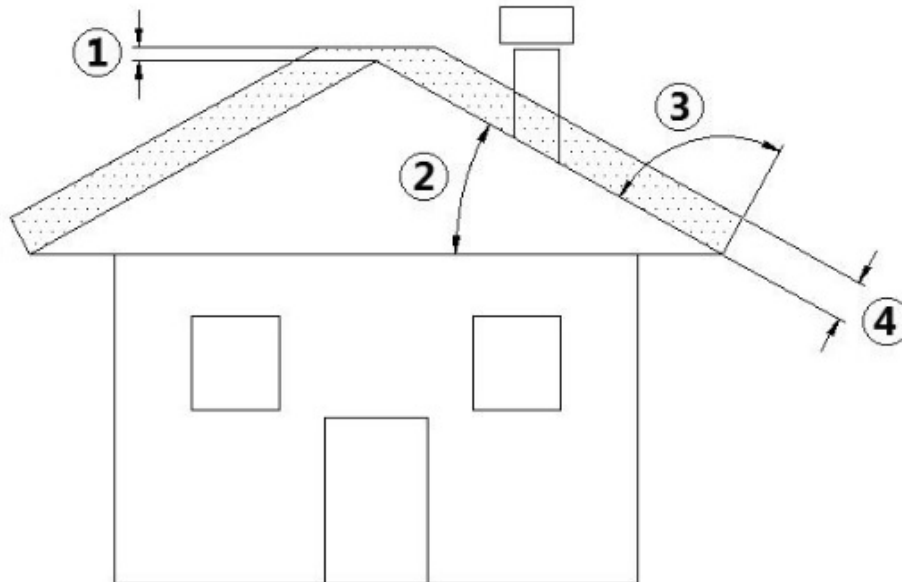

Fig. 3 - Inclined roof
LEGEND	Fig. 3
- The outlet height in the atmosphere must be away from the reflux area caused by the roof structure or by obstacles laying nearby (see **Fig. 3**).